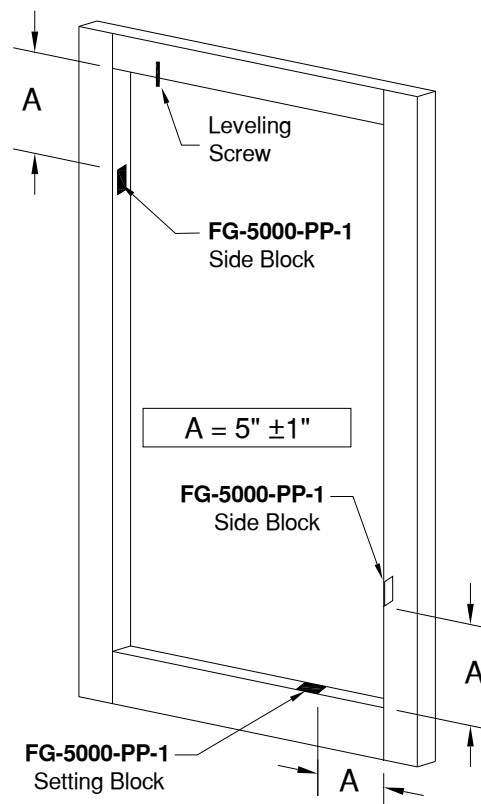

Figure 23: Locating Setting Blocks / Side Blocks
- 11.2.1 Install **FG-5000-PP-1** Setting Blocks / Side Blocks per *Figure 23*. The blocks are adhesive backed for easy installation. Blocks may be doubled as required to compensate for glass tolerances.